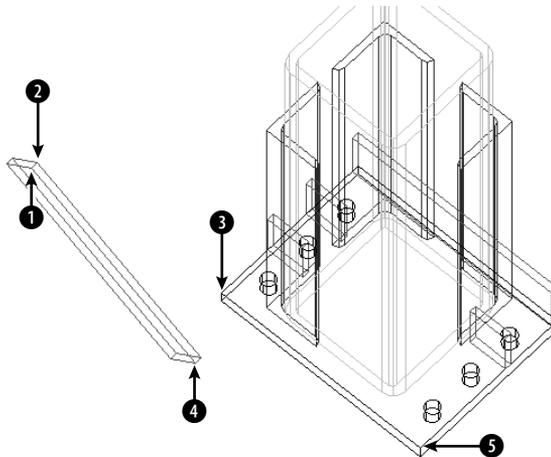

Figure 24-30: Part of a base assembly for an industrial washer with a sidebar that needs to be moved and rotated into place.
2. Save the file as `ab24-09.dwg` in your AutoCAD Bible folder. You see part of the base assembly for an industrial washer, as shown in Figure 24-30. One sidebar needs to be moved and rotated into place. Make sure OSNAP is on. Set a running object snap for endpoint.
3. Notice that it's hard to tell which way the sidebar is facing because it's displayed in wireframe. Use the `HIDE` command to do a hide. This tells you that ❶ in Figure 24-30 is facing away from you. Use the `REGEN` command to get back to wireframe display.
Specify first source point: *Pick ❶ in Figure 24-30.*